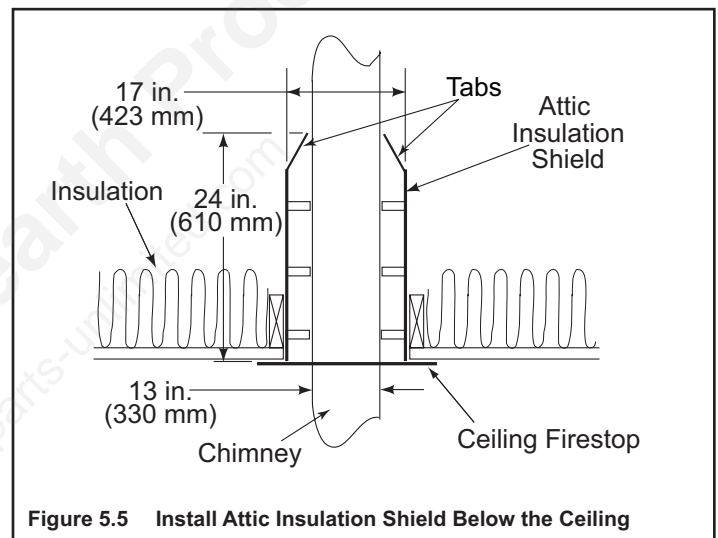

Figure 5.5 Install Attic Insulation Shield Below the Ceiling
**Note:** The ceiling firestop MUST be nailed to the bottom of the ceiling joists EXCEPT when the space above is uninsulated and the attic insulation shield is not being used (see Figure 5.5). When the attic insulation shield is used the ceiling firestop may be above or below the joist of an insulated ceiling.